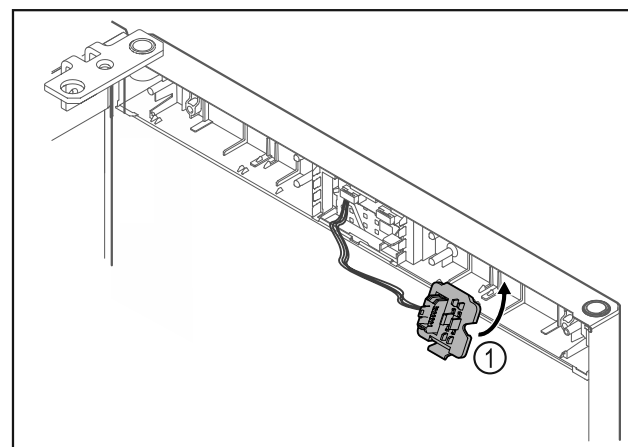

Fig. 14
- Engage the plug holder Fig. 14 (1) on the opposite side.\*